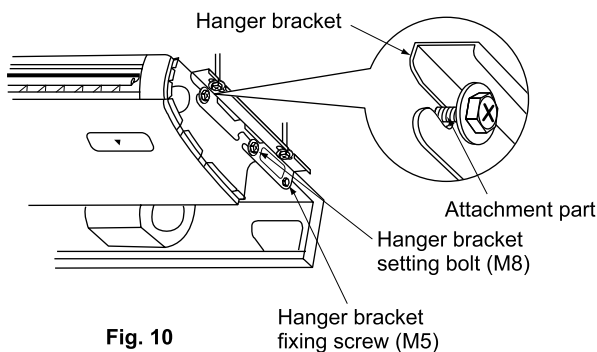

Fig. 10
- (2) **Lift the indoor unit's main body, insert the bolt (M8) for the hook into the attachment part on the hook, while sliding the main body from the front. (Refer to Fig. 10)**
- (3) **Fasten the bolts for the hooks (M8) securely in the four locations, left and right. (Refer to Fig. 10)**
- (4) **Replace the screws for the hooks which had been removed (M5) securely in 2 places left and right. This is necessary to prevent any forward and back deviance in the main body of the indoor unit. (Refer to Fig. 10)**